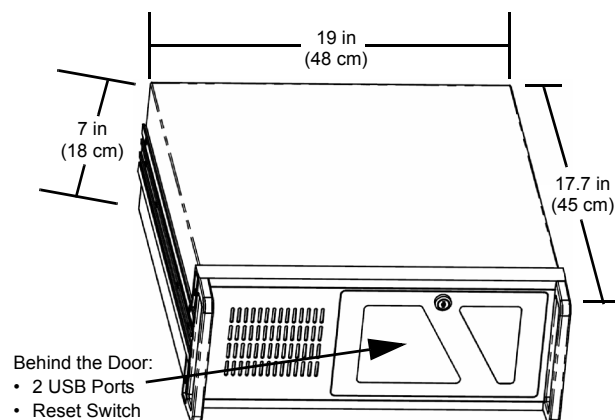

Figure 1: Dimensions and Front Panel Components
2. If mounting the server in a rack, install the rails with the hardware provided. Then, mount the server in an appropriately sized mounting rack. See Figure 1 for dimensions.
11. Press the Reset switch on the front of the server. See Figure 1.